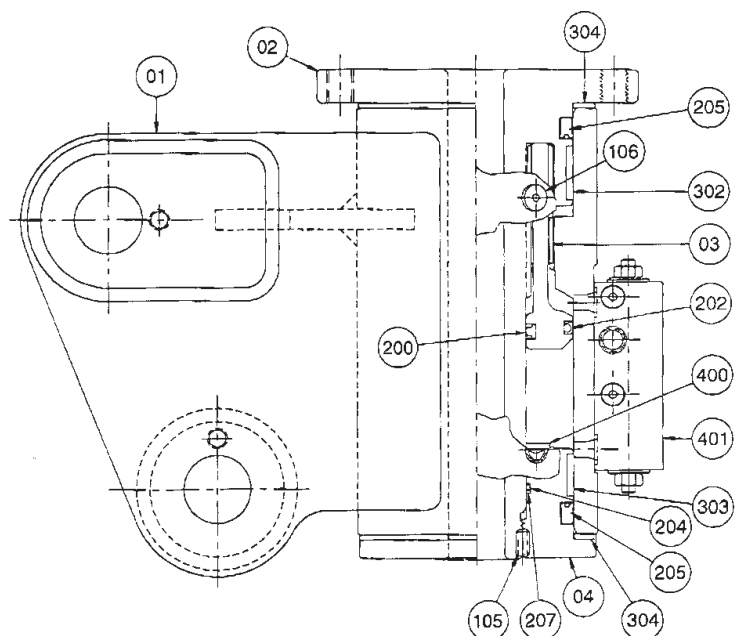
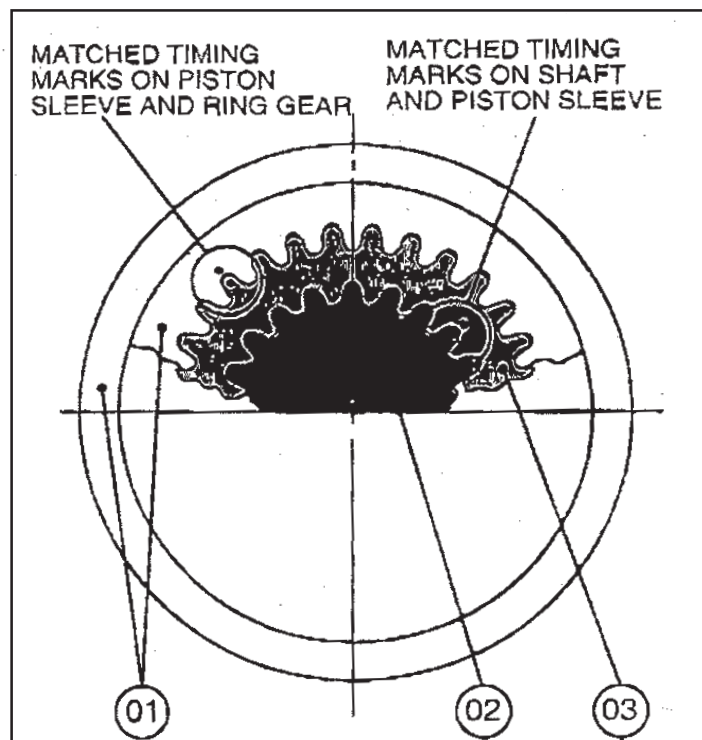

Figure 3-25
Figure 3-27
Place on a clean workbench with ample room for all internal parts as they are removed. Remove all hydraulic fittings. Loosen set screws (105) and unthread end cap (04). Use a small grinder to remove the set screw thread stakes if necessary. Remove the stop tube (400), if furnished. The shaft is now free to move up and out of engagement with the piston sleeve (03). Note the timing marks on the spline teeth - small punch marks on the face of each gear. See Figure 3-27. Correct orientation of the marks will greatly simplify actuator timing upon reassembly. *Do not remove any component without first locating the timing marks.*
Wash all parts thoroughly in cleaning solvent and blow dry. Coat all sealing and working surfaces with a good grade hydraulic oil. Install seals and bearings in the piston sleeve, shaft, and end cap oriented as seen in Figure 3-25. The gap on the wear rings (302) (303) should not exceed .125". Place the actuator in a vertical position and install the piston sleeve (03) in timed relation to the housing. Apply firm pressure as the new seals enter the housing and become compressed by the housing chamber. **CAUTION:** Take care to insure the piston sleeve does not mar the cylinder bore. The timing marks must be aligned for proper shaft orientation, see Figure 3-27.
The shaft (02) is installed by again aligning the proper punched timing marks, see Figure 3-27. Use masking tape to temporarily tape the threaded portion of the shaft to help clear the piston seal (200). Turn the actuator upside-down and install the stop tube (400), if furnished.